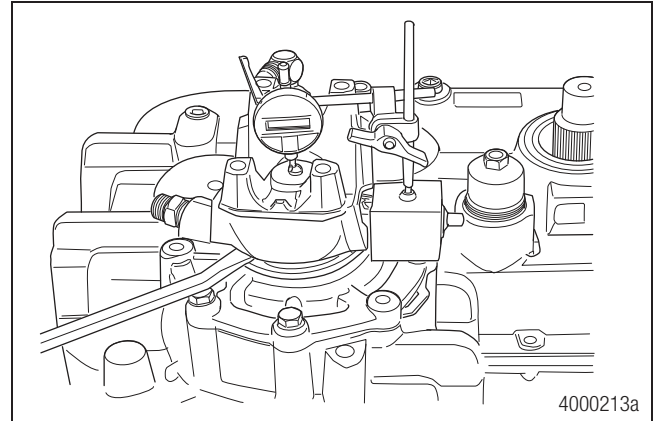

Figure 7.29
1. Set up a dial indicator to check input shaft bearing end play. Center the dial indicator over the shaft using a ball bearing for accuracy. Figure 7.29.